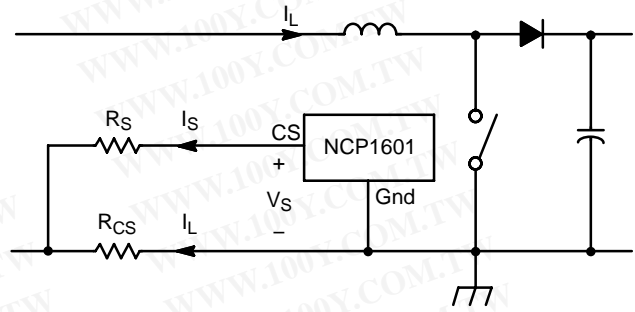

Figure 32. Current Sensing
The device senses the inductor current  $I_L$  by the current sense scheme in Figure 32. This scheme has the advantages of: (1) the inrush current limitation by the resistor  $R_{\text{CS}}$ , and (2) the overcurrent protection and zero current detection implemented in the same pin.
Inductor current  $I_L$  passes through  $R_{\text{CS}}$  and creates a negative voltage. This voltage is measured by a current  $I_S$  flowing out of the CS pin (Pin 4). The CS pin has an offset voltage  $V_S$ . This offset voltage is studied in the setting of zero inductor current  $I_{L(\text{ZCD})}$  and the maximum inductor current  $I_{L(\text{OCP})}$  (i.e., overcurrent protection threshold). A typical variation of offset voltage  $V_S$  versus sense current  $I_S$  is shown in Figure 15. Higher the value of the offset voltage at low current region creates lower the zero current threshold for better accuracy. Based on Figure 32, (eq.13) is derived.